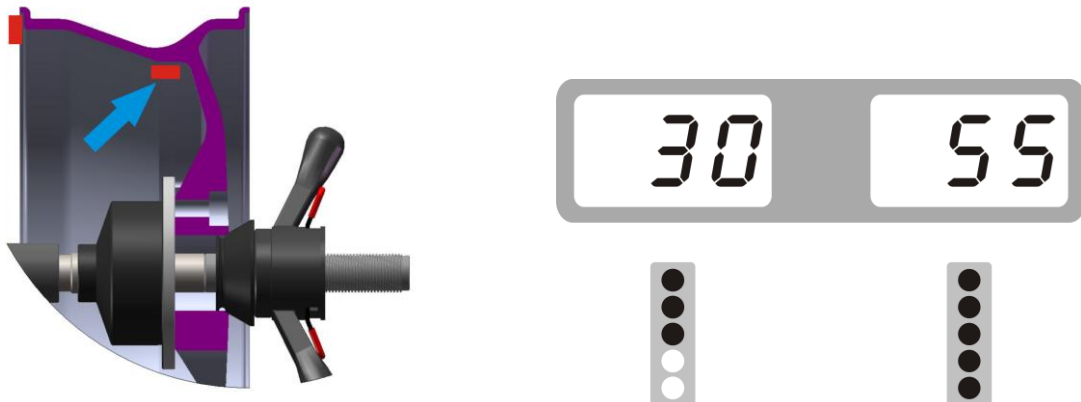

Fig.14
- 5) Turn the wheel slowly with the hand counterclockwise, until the outside unbalance indicator lights are all on, at rim outside the point of 12 o'clock is the position for unbalance .unblance calibration position are as shown in below pictures. Paste corresponding balance weight on the outside of the wheel rim. FIG.14